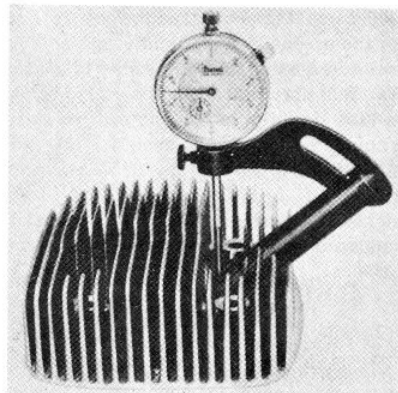

Fig. 13—Special dial indicators are available as shown for measuring piston travel in angled spark plug holes.
**IGNITION TIMING.** Ignition timing is usually specified in degrees of crankshaft rotation before piston reaches Top Dead Center, or by measuring piston travel before TDC with a dial indicator as shown in Fig. 12. If the spark plug hole is angled, special dial indicators are available as shown in Fig. 13.
Fig. 12—To measure piston travel, install a dial indicator (such as Central Tool Co. indicator shown) in spark plug hole. Find TDC, then move piston by rotating crankshaft until ignition timing is correct. Refer to Fig. 13 if spark plug hole is not parallel to cylinder bore centerline.